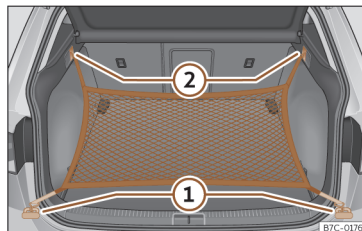

Fig. 114 In the luggage compartment: rings ① and hooks ② for attaching the net bag.
- Secure the short net hooks to the fastening rings >>> Fig. 114 ① >>> ⚠. The bag zip should be facing upwards.
- Secure the straps in the bag hooks ②.